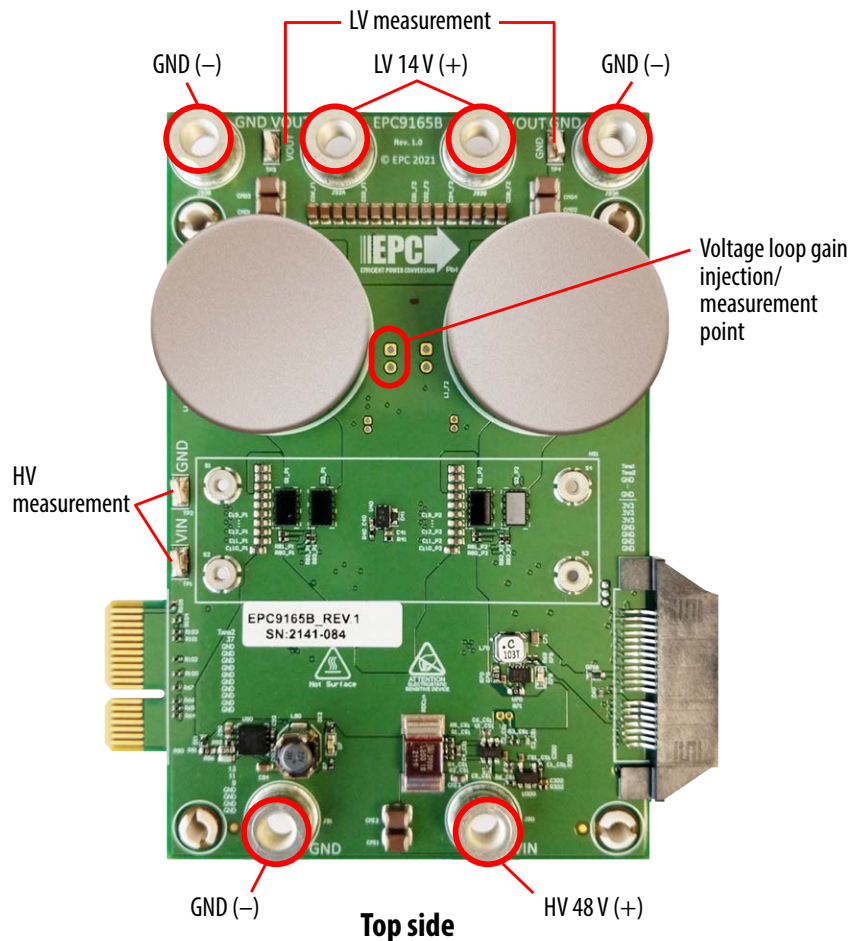

Figure 2: EPC9165 test point pad and hookup locations and designations
All signals are measured with respect to ground (GND). All the test point locations are shown in figure 2.
**Buck mode:** power supply connects to HV 48V (+) and GND (-); load connects to LV 14V (+) and GND (-), as shown in figure 2.
**Boost mode:** power supply connects to LV 14V (+) and GND (-); load connects to HV 48V (+) and GND (-), as shown in figure 2.